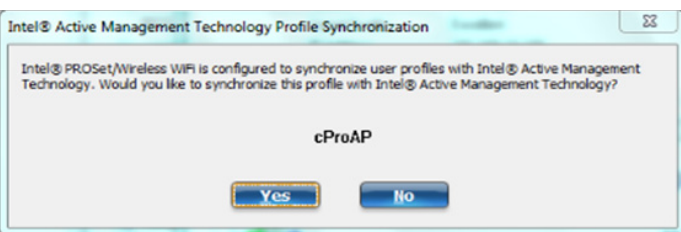

Figure 4. Profile Synchronization User Acknowledgement
**Profile synchronization user acknowledgment: (Figure 4)**